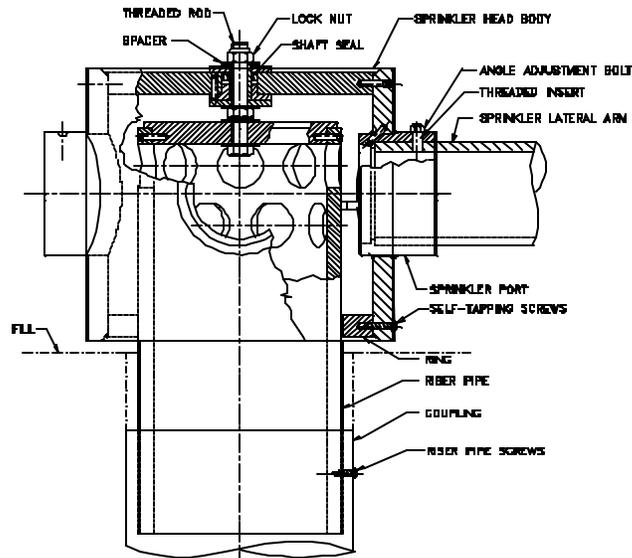

FIGURE 3 - 6" SPRINKLER HEAD ASSEMBLY
- * Lift the fan assembly using the lifting lugs located on the fan ring. (Refer to Figure 3)